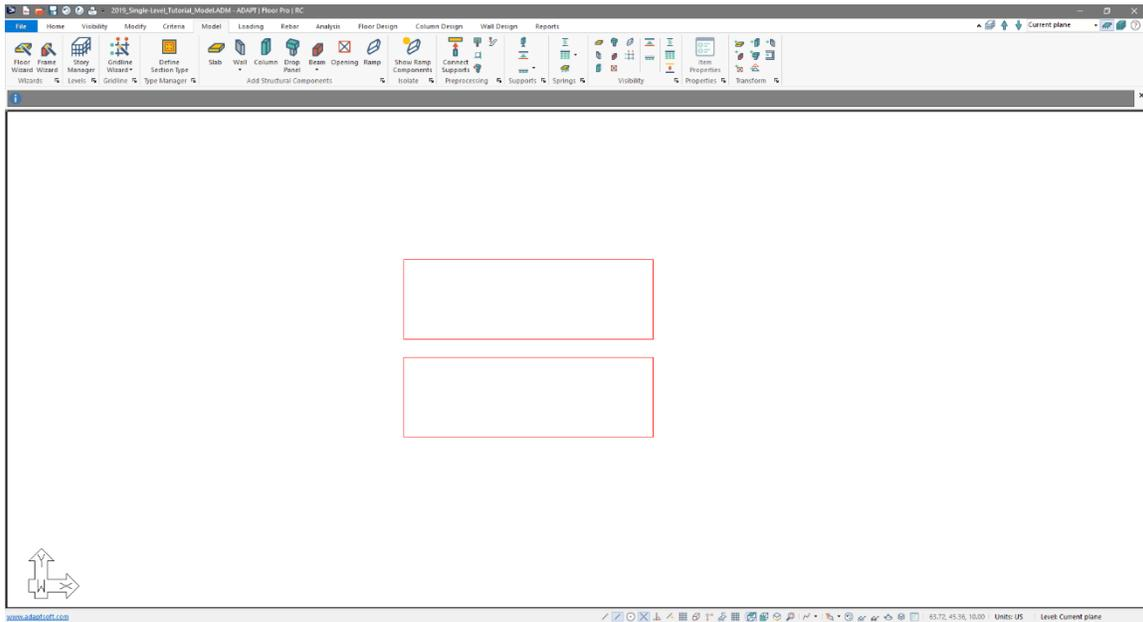

Figure 2-34
- Click on the *OK* button, the user should now see the polylines from the imported DWG as shown in **FIGURE 2-34**.